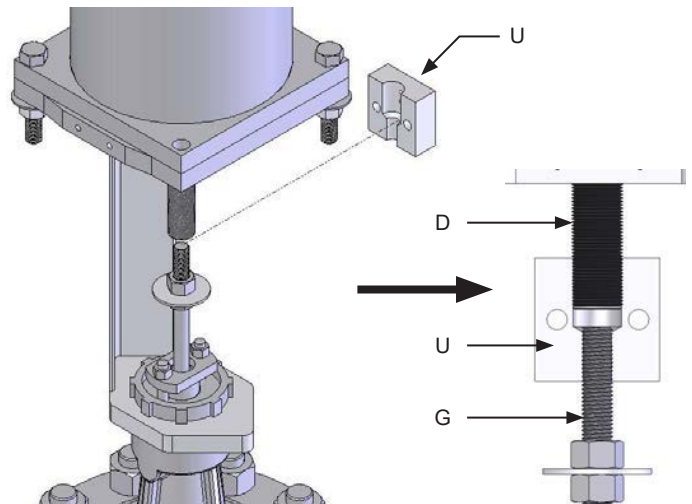

Figure 53. Center of Rod Clevis holes are approximately centered with gap between Stud Extension and Valve Stem (Section of Housing Assembly hidden for clarity)
15. Remove WOOD BLOCK (Y). Orient BACK ROD CLEVIS (U) such that it is approximately centered vertically with the gap as shown in figure 53.